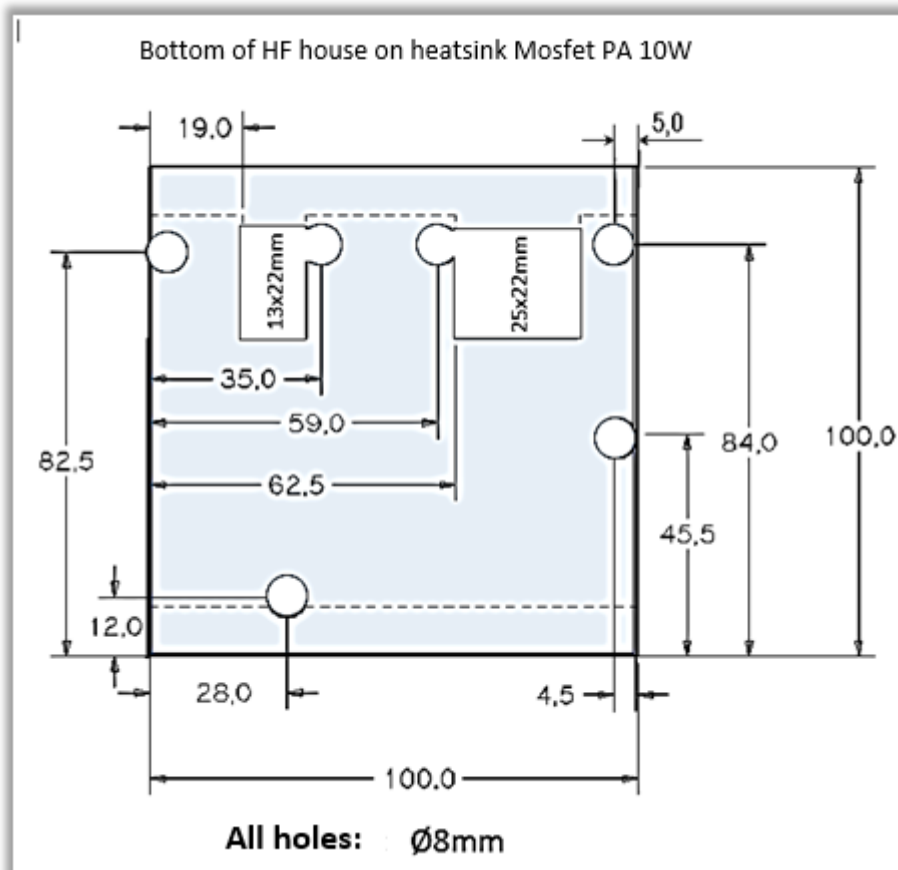

Fig. 45. PA housing.
6.13 Dimensions HF bottom, fig. 45 and 46.